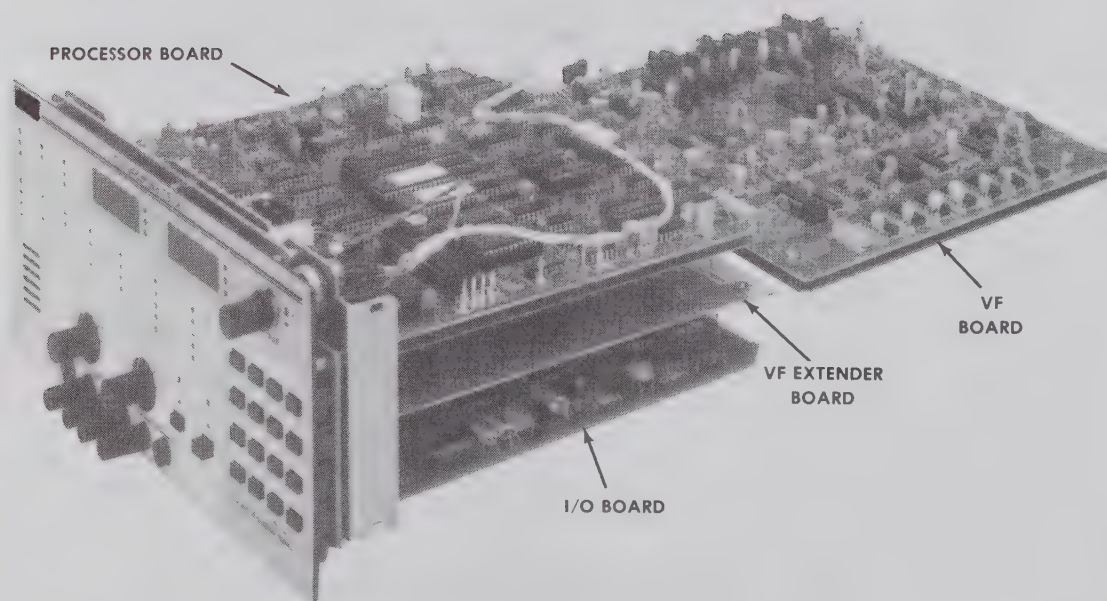

Figure 2.7-7 Setup for VF Board Extended
- (1) Turn off the Model 1125 power switch and disconnect the power cable from the external power source.
- (2) Disconnect the ends of the test cables connected to the Model 1125.
- (3) Disconnect the two cable assembly connectors going to the inside rear panel and the power supply of the Model 1125.
- (4) Remove the I/O board from the extender board and remove the extender board from the mother board slot so that the two dial shafts protrude through their proper holes to the front of the display panel.
- (5) Refasten the two dials with screws provided.
(6) Remove the VF board from its slot and insert the VF extender board into the VF slot of the mother board. Then connect the VF board to the extender board, supporting it if necessary with some non-conducting article, such as a plastic spool or a ceramic object of the right height (Figure 2.7-7).
(7) Reconnect the Model 1125 cable connectors to the inside rear panel and power supply of the Model 1125.
(8) Turn on the Model 1125 power switch and again note any failure messages as the set runs through the self-test routine.